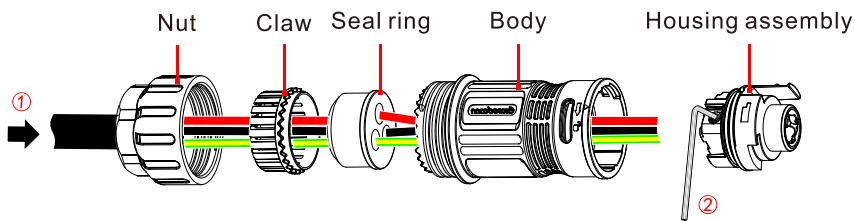

Figure 3-38 GRID connector installation 1
Step 6 Connect the BACKUP wire to the BACKUP port. As shown in Figure 3-38.